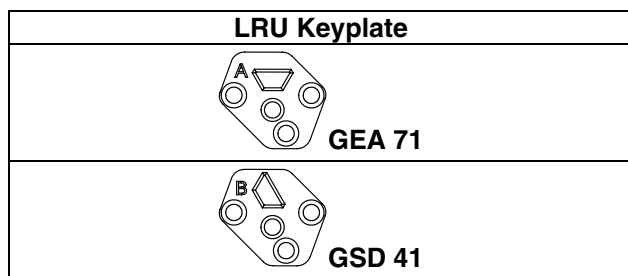
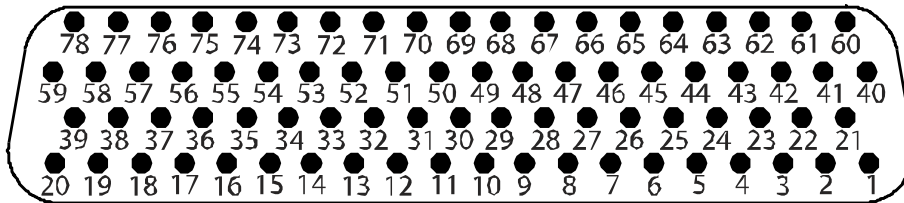

Figure 5-44. GSD 41 Keyplate Information
Figure 5-49. GDC 74B Backplate Connector (P741)
2. Run the HSCM.exe program (verify interface resembles Figure 5-44).
The GSD 41 Backplate is similar to the GEA 71 Backplate (Figure 5-49). The only difference is the Keyplate (Figure 5-44). The GSD 41 Backplate contains the "B" Keyplate, the GEA 71 Backplate contains the "A" Keyplate. Refer to Figures 5-59 and 5-60, the GSD 41 Installation Manual (P/N 190-00303-00), and the G1000 System Installation Manual (190-00303-00) for more information.